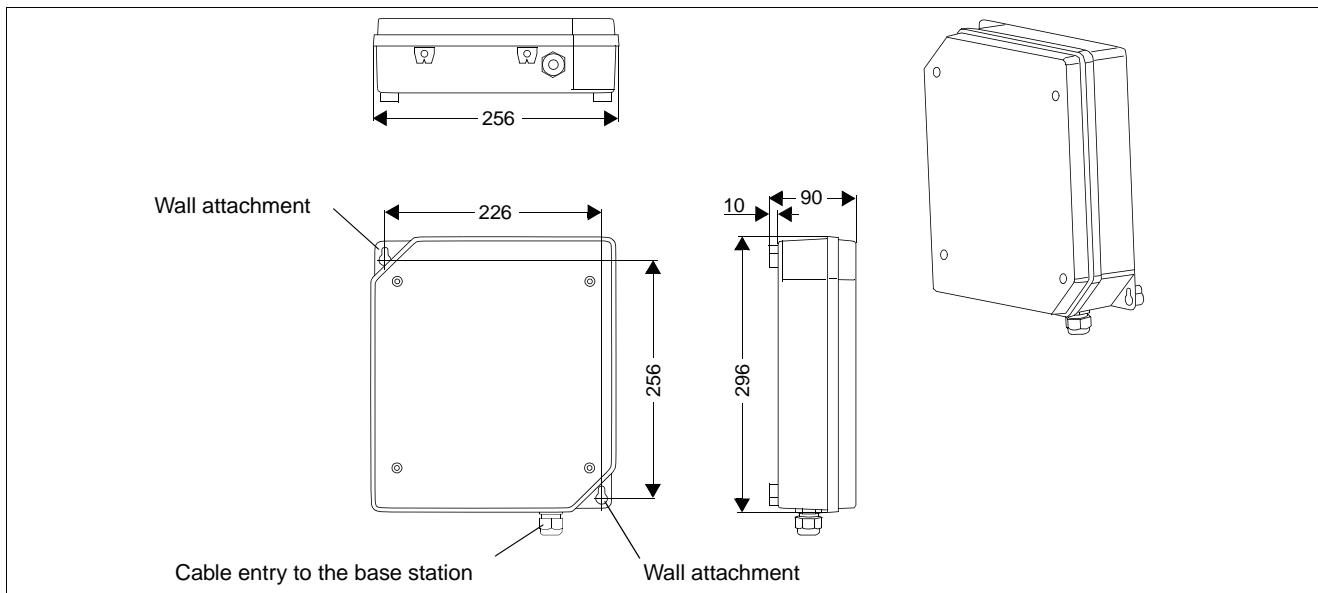

Figure 18 Wall mounting without mounting plate
1. Drill two holes (5 mm diameter) 110 mm apart in the wall where the base station is to be mounted. Insert the wall anchors in the hole (see Figure 18).
For dimensions, see Figure 18.
For dimensions, see Figure 18. Insert the wall anchors in the holes.